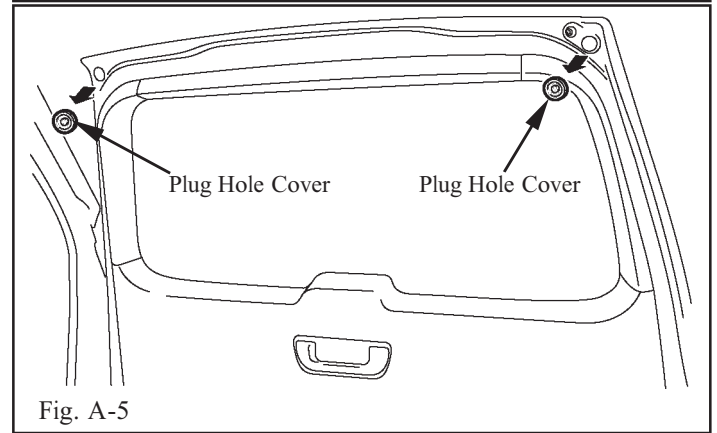

Fig. A-5
- 9. Remove plug hole covers (2 locations). (Fig. A-5)